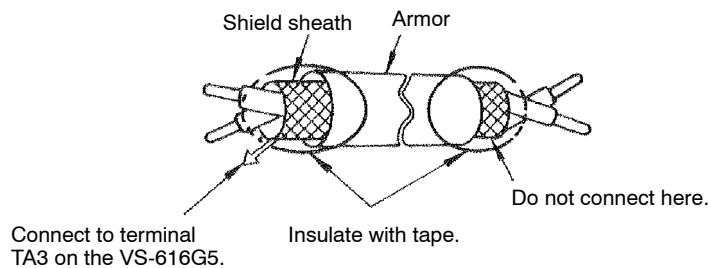

Fig 3.32 Processing the Ends of Twisted-pair Cables
2. Use twisted-pair or shielded twisted-pair cables to connect the PG to prevent operating faults. Process cable ends as shown in *Figure 3.32*. The maximum cable length is 100 m.